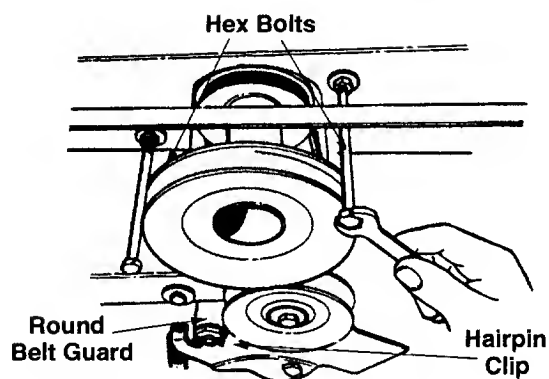

Figure 8
1. Working beneath the tractor, remove the round belt guard from the idler by removing the hairpin clip. See Figure 8. Remove the two hex bolts which act as belt keepers by the engine pulley.
20. Replace the hex bolts (belt keepers) by the engine pulley. Refer to Figure 8.